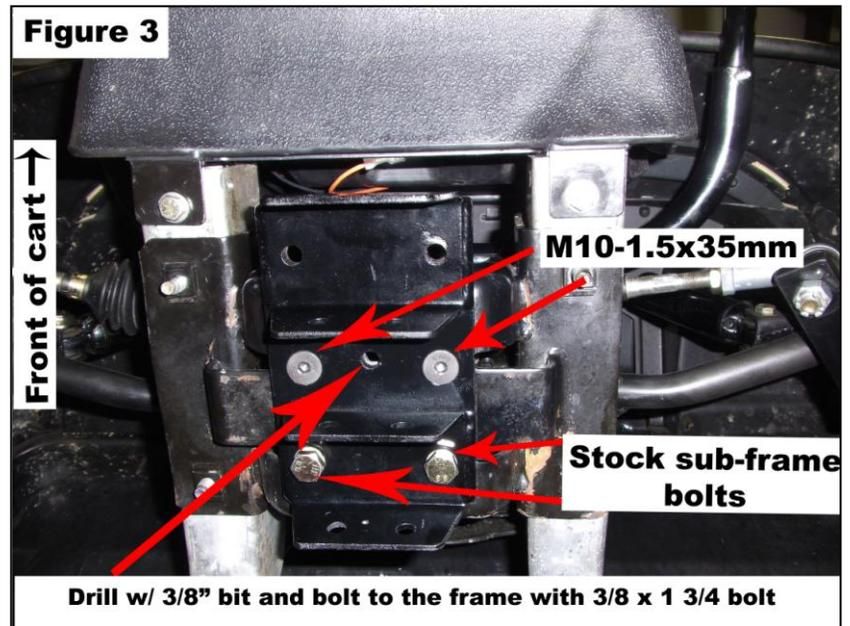

Figure 1
5. Completely remove the spindles, leaf spring and a-arms from the cart. You will need to remove the 3 bolts from the steering box to unassemble the upper a-arms. Save the 3 bolts for reinstalling the steering box. Save the stock upper a-arm bolts for installing Jake's new upper a-arms. Figure 1 shows the front of the cart disassembled.